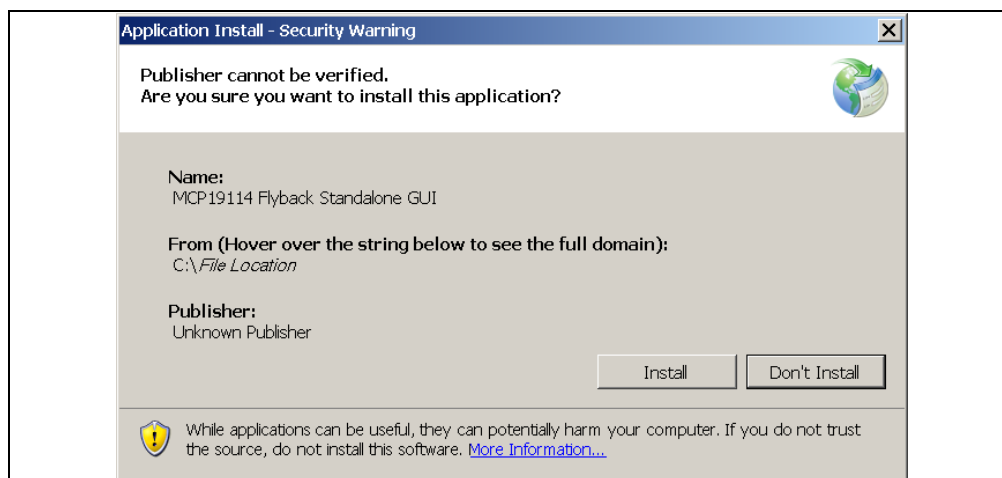

FIGURE 2-1: MCP19114 - Flyback Stand-Alone GUI Installation Window.
3. Double-click the set up .exe file to start software installation. Press the **Install** button in the Application Install window (Figure 2-1). Once the installation completes, the GUI window will open (see Figure 3-1 in Chapter 2. "Installation and Operation").